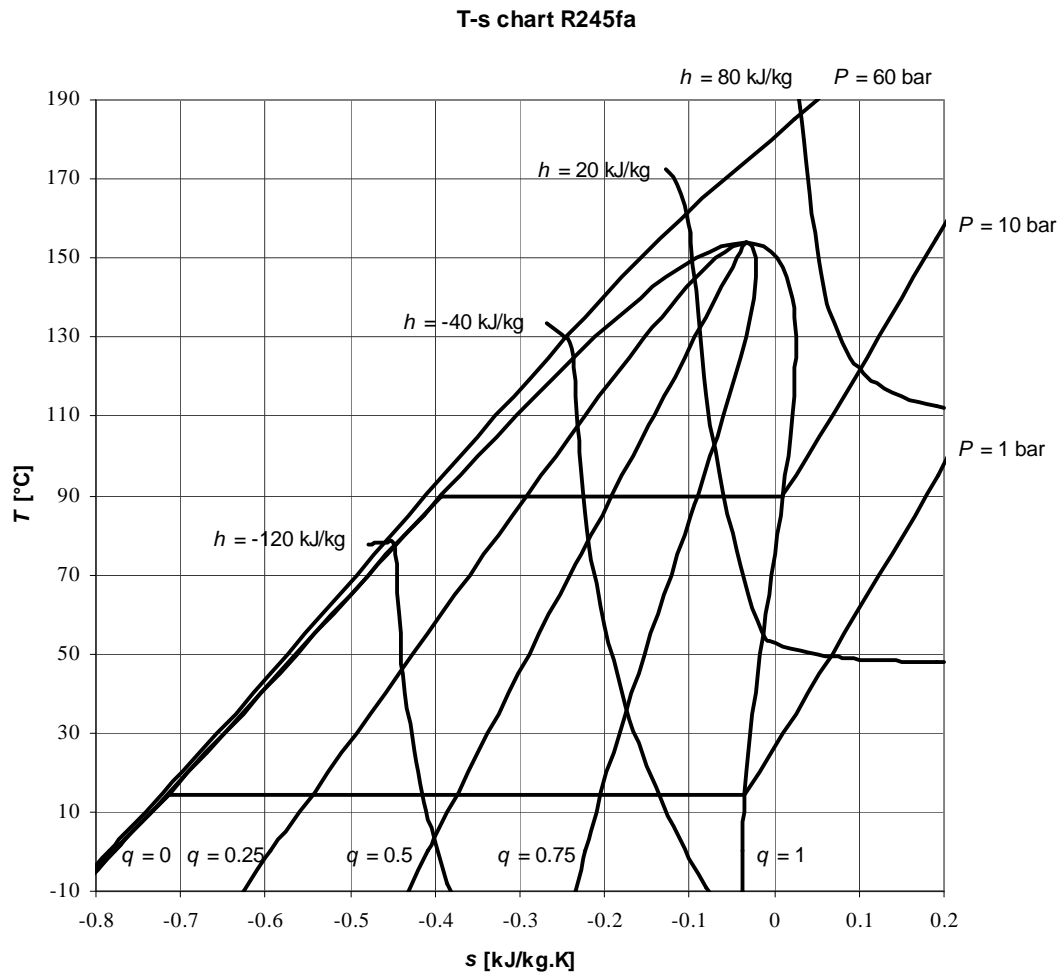

Figure 2: T-s diagram for R245fa.
- (a) Make a table of the values of P , T , h , s related to the state points of the thermodynamic cycle (1, 2, 3, 4). Use the property values provided in table 1 for liquid and vapor states (the values are not ordered: use the provided T - s diagram in figure 2 to identify the property values corresponding to the desired state). Also use the property values for saturated states in table 2.
- (b) For each state point, write down the equations that can be applied to obtain the property values identifying the thermodynamic state. Make a sketch of the thermodynamic cycle in a T - s diagram. See also figure 2. For example, for the compression outlet one can write: